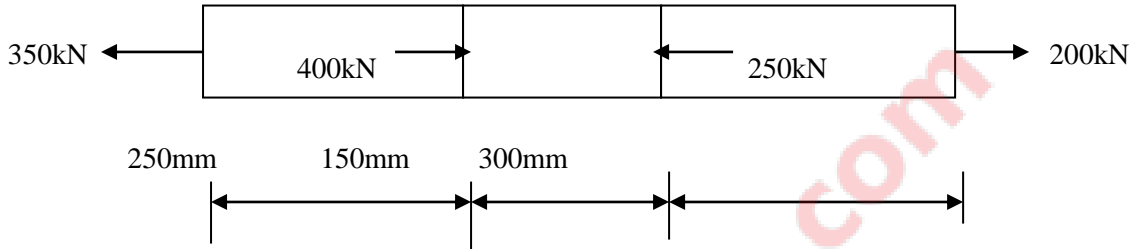

Figure . 1
- (c) Find the change in length of 16mm diameter specimen subjected to forces as shown in Figure. 1. Take $E=2 \times 10^5 \text{ N/mm}^2$. ૦૪